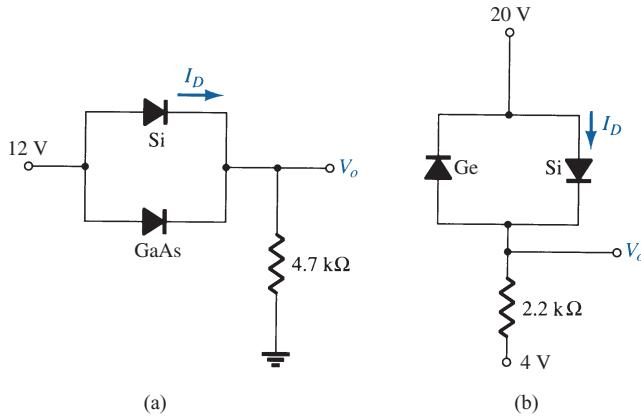

FIG. 160
10. Determine V_o and I_D for the networks of Fig. 160.